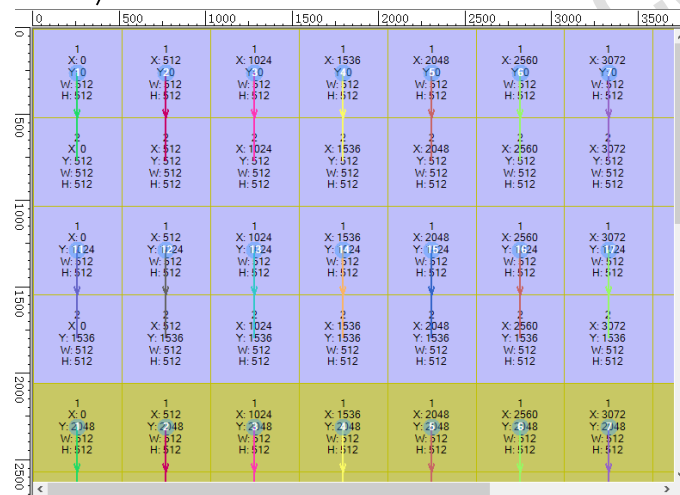

Fig 6.4.2.1 Mapping diagram
Step 1: Select sender' s port according to actual cabinets, select **+** , set the position, count, size, and selected style of the receiver cards that are connected to corresponding Ethernet ports to draw mapping diagram (See Figure 6.4.2.1 below).